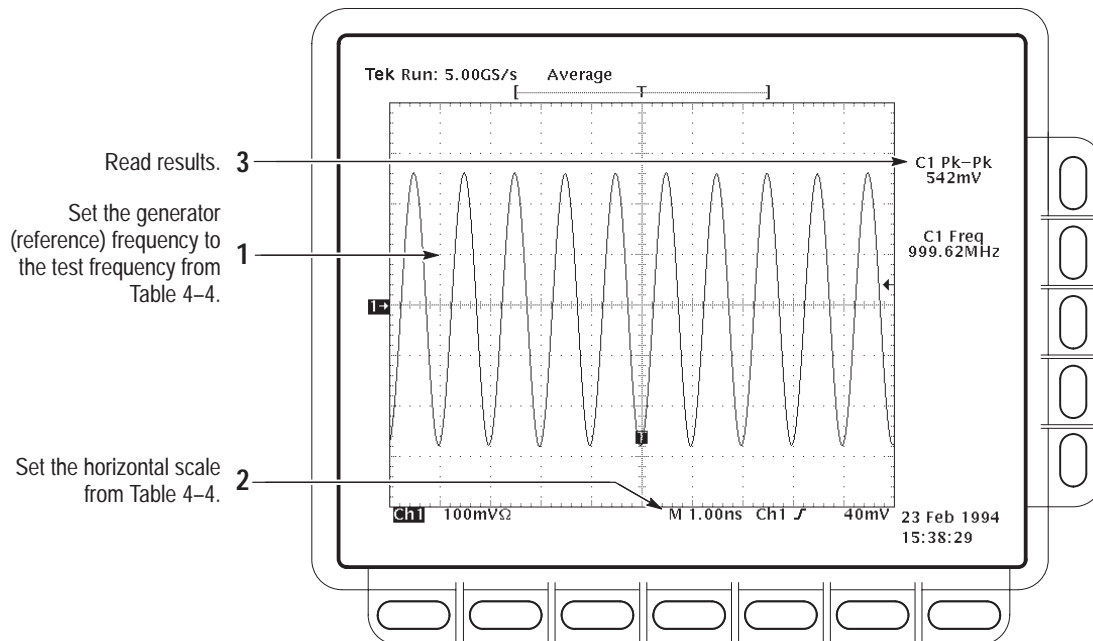

Figure 4-9: Measurement of analog bandwidth
- Set the frequency of the generator, as shown on screen, to the test frequency in Table 4-4 that corresponds to the vertical scale set in substep **d**. See Figure 4-9.
- Read the results at the CHx Pk-Pk readout, which will automatically measure the amplitude of the test signal. See Figure 4-9.